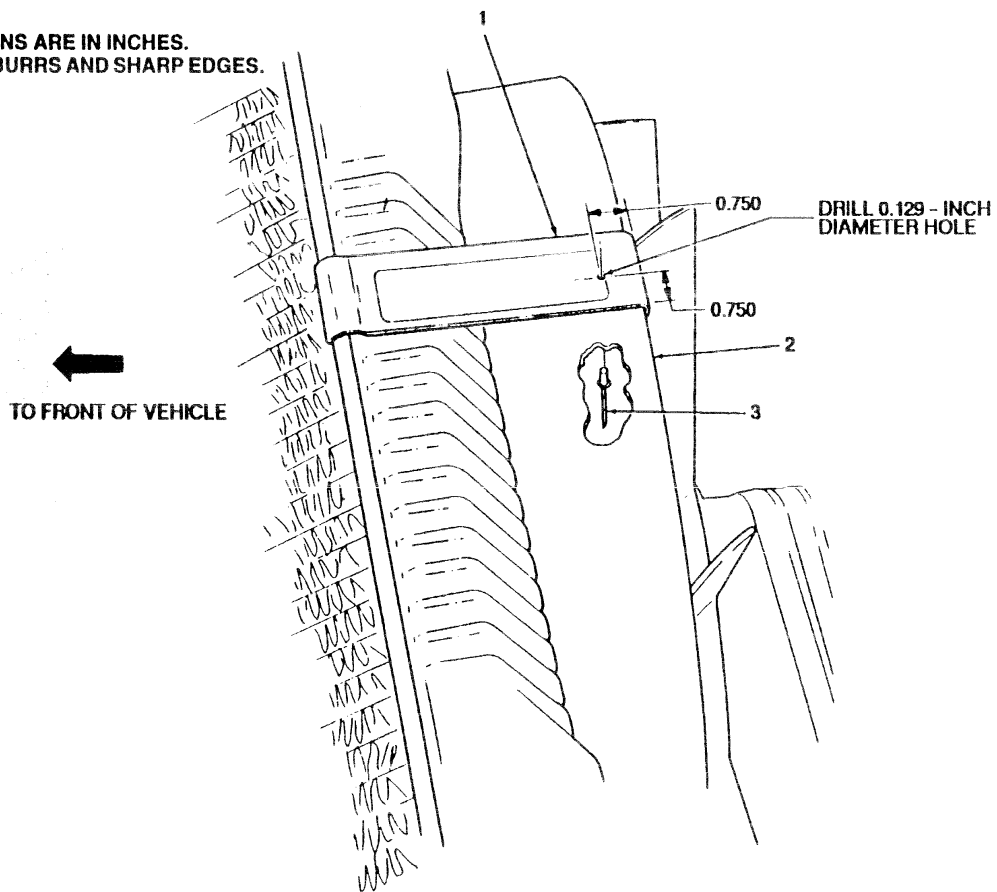

FIGURE 3-2
1. Locate, mark, and drill 0. 129-inch diameter hole (#30 drill bit) in radiator retaining strap (1) and fan shroud (2). (see figure 3-2)
2. Secure NSN 5320-00-083-5009 rivet (3) through fan shroud (2) and radiator retaining strap(1).